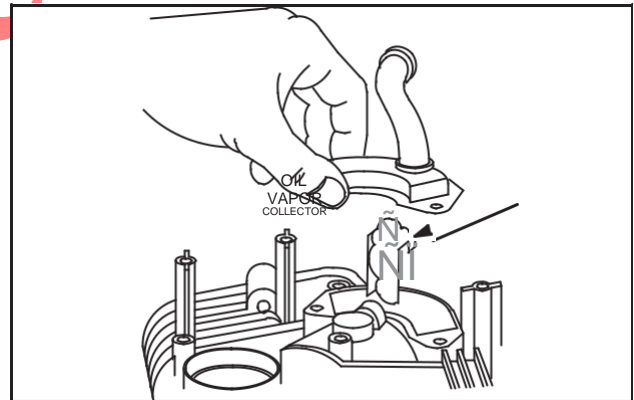

Fig. 9 – Install Breather
2. Install breather with new gasket, Fig. 9.